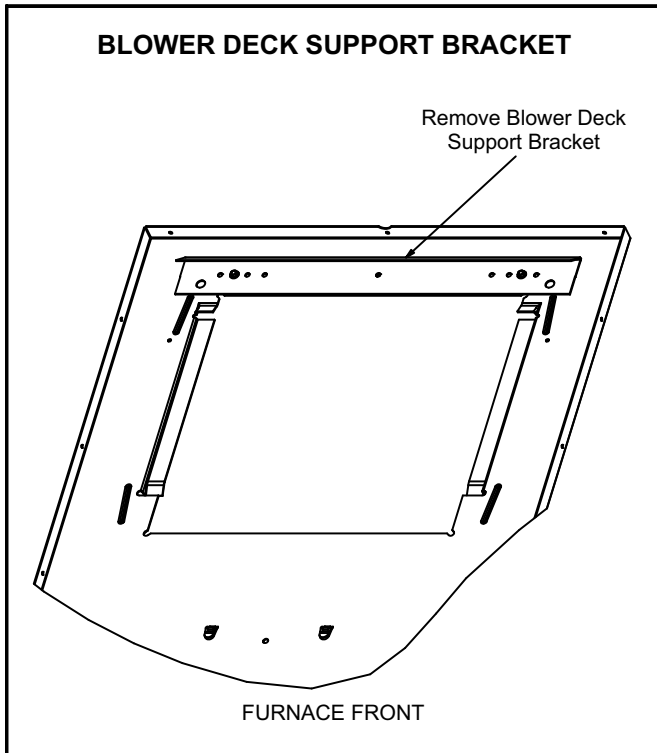

FIGURE 2
- 21 - If the furnace came with a blower deck support bracket as shown in figure 2, remove and discard.